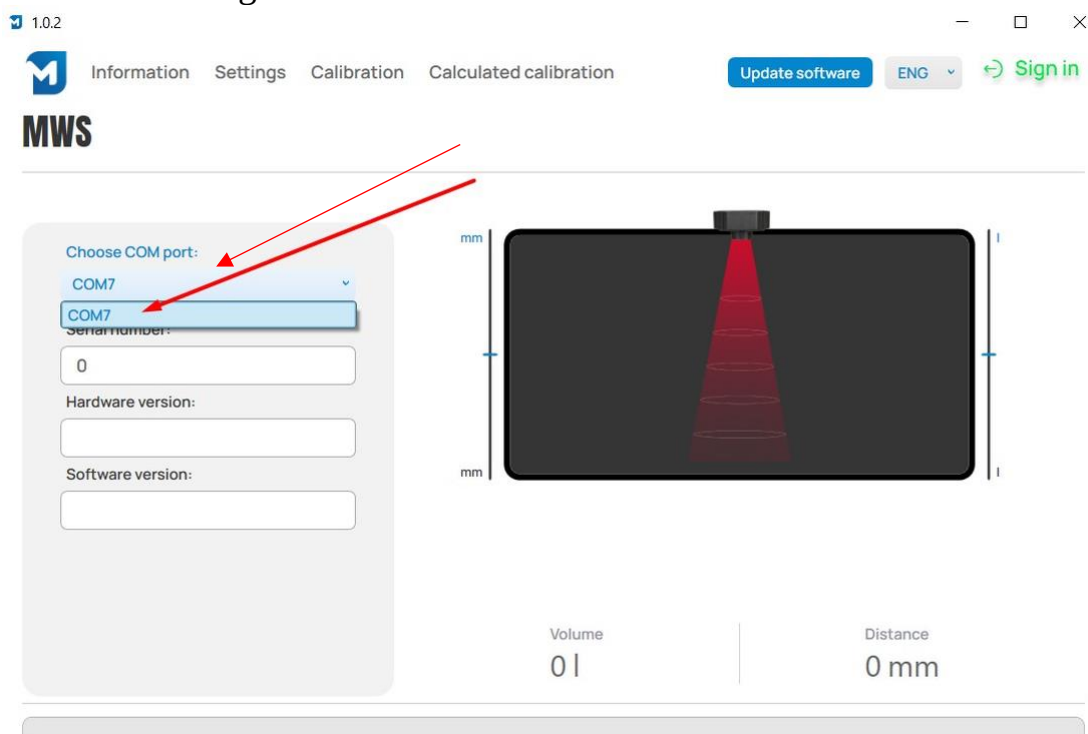

Fig. 11. Selecting the COM port
- 4) Select the required COM port (Fig. 11).